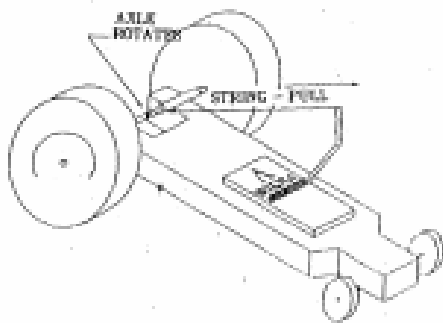
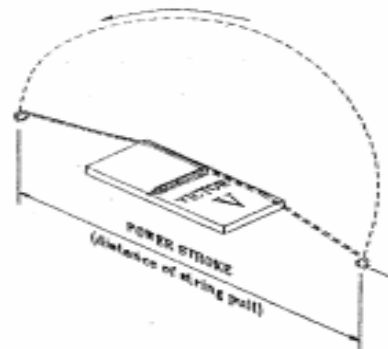

Fig. 1
Fig. 2
Observe the mousetrap arm (Fig. 1) and string movement in (Fig. 2) below.
18. Refer to Fig. 2 and determine the power stroke for each of the arm lengths listed in Table 4 below and then calculate how much string is needed for each of the powerstrokes, how many times the axle will rotate, and the distance the vehicle will travel.